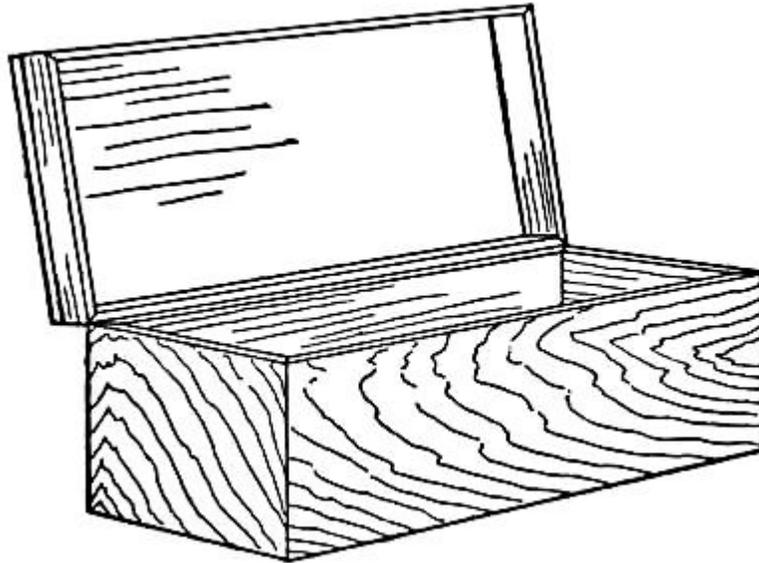

FIG. 178.—A Negative-case.
**A Wooden Case** to hold the envelopes is desirable, and such a one may be made similar to Fig. 178. For four-by-five negatives the inside of the box should measure twelve inches long, five and one-quarter inches wide, and three inches deep. It will hold about six dozen negatives.